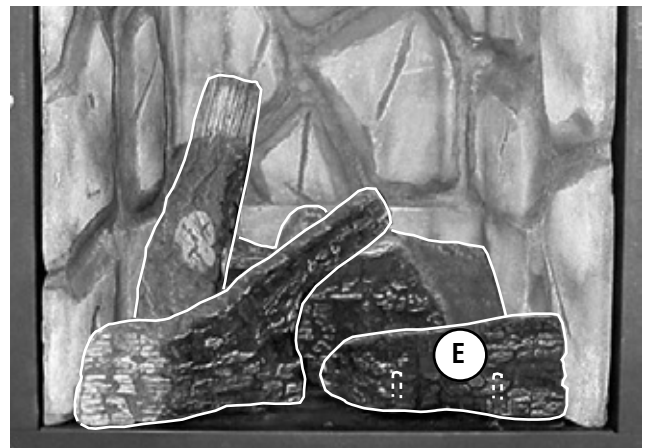

Figure 47 - Install Right Front Log (E)
4. Place the right front log (E) as shown in Figure 47. Position the hole on the bottom of log E over pins #4 and # 5.